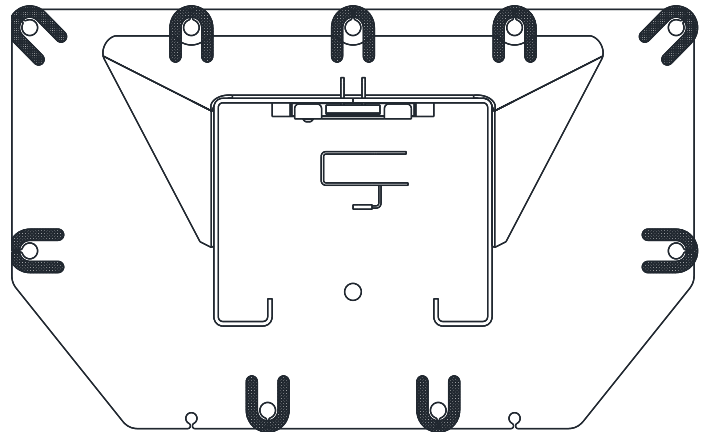

Fig. 5 – Column Shimming
- 20) Repeat steps 15 thru 17 for the two (2) anchors under each carriage.
- 21) Shim both columns to plumb using the shims provided as shown in **Fig. 5**. DO NOT shim more than 1/2" at any given point. Use a level no less than 24" in length to plumb columns.
- 26) Check idler column shimming. Use additional shims (see Fig. 5) to remove any gaps that may have been created while installing overhead beam. Tighten anchor bolts and re-check column for plumb. Torque to 150 foot-pounds.